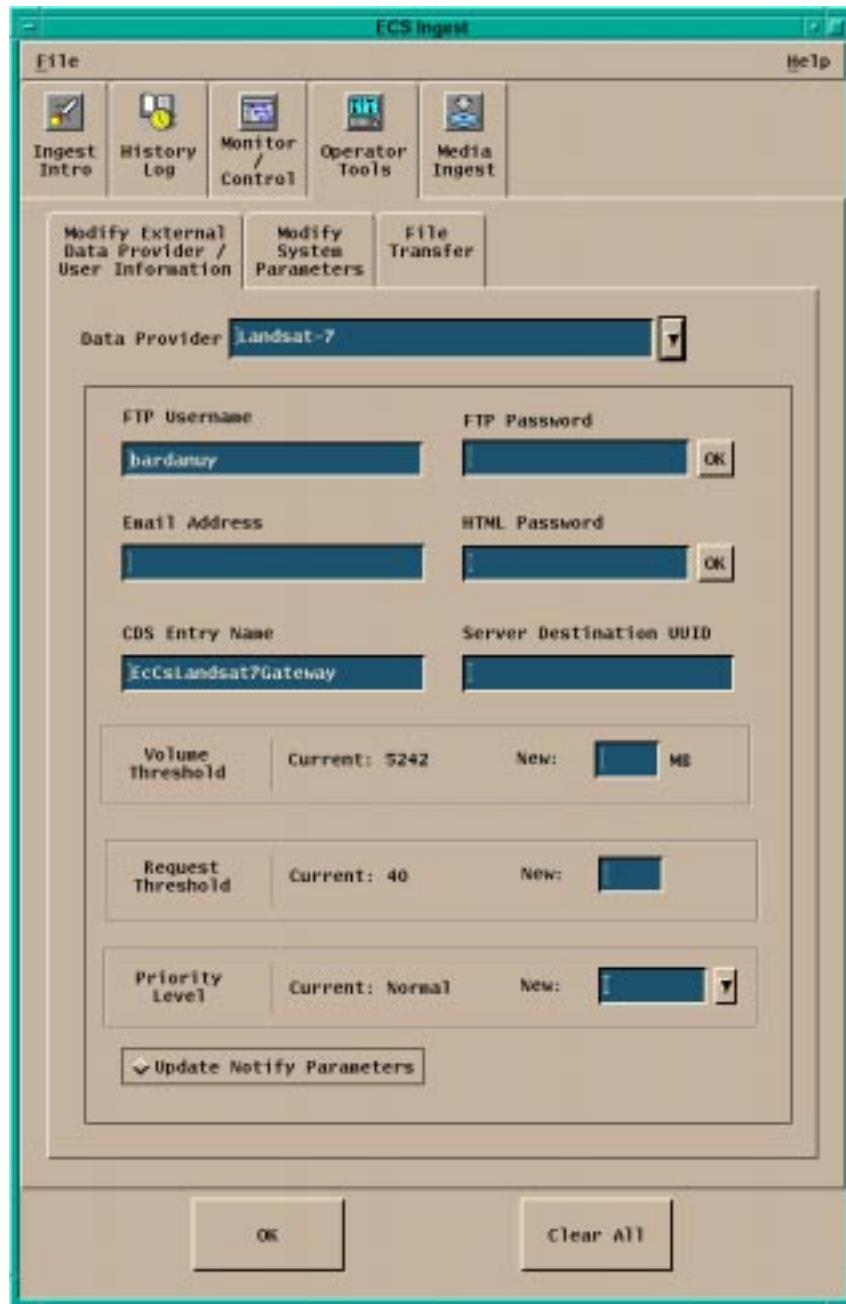

Figure 4.6.1-6. Operator Tools - External Data Provider/User Information Sub-tab
- **Modify System Parameters sub-tab** allows setup of thresholds and system information on a system-wide basis (see Figure 4.6.1-8)
- **File Transfer sub-tab** allows setup of external node information (see Figure 4.6.1-9)